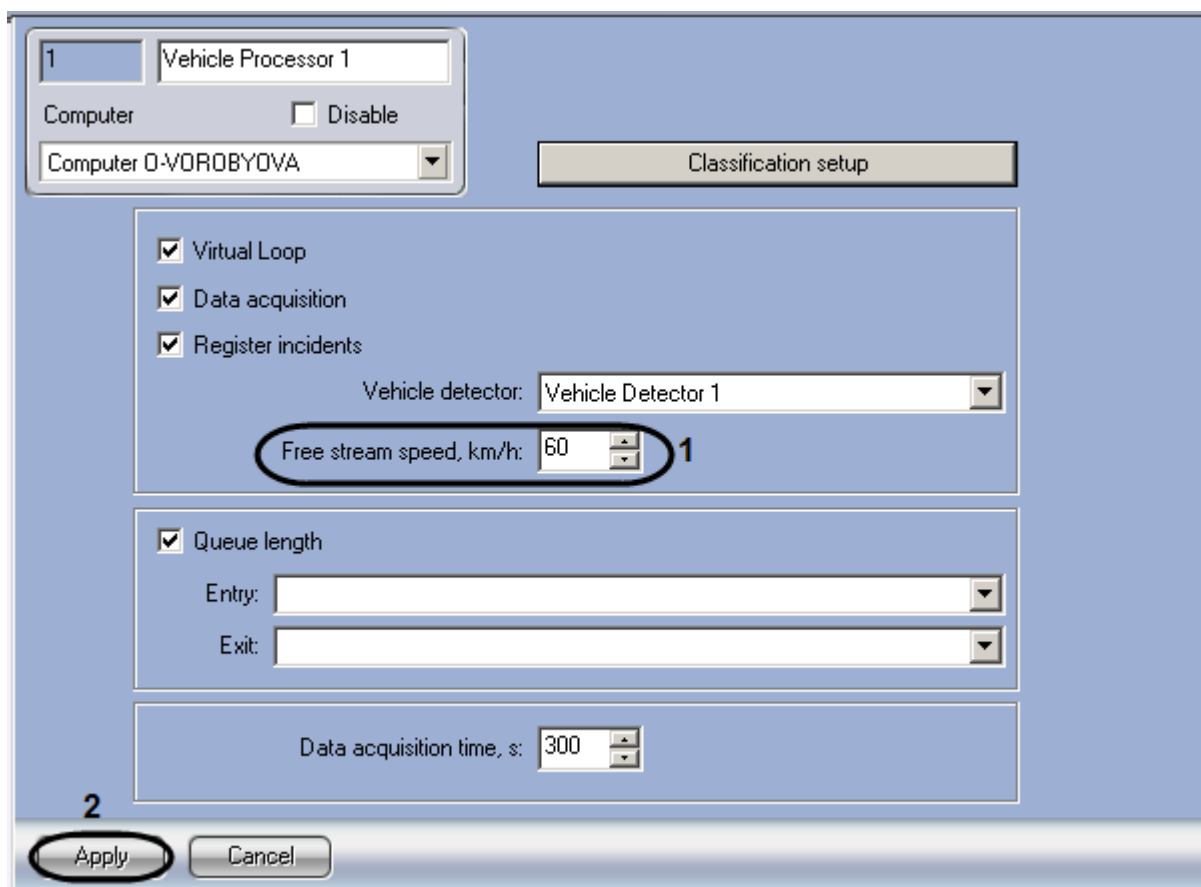

Fig. 7.7—11 Setting up the free stream speed
1. Go to the Vehicle processor settings panel (Fig. 7.7—11)
2. In the «Free stream speed» field enter the speed in km/h of a free stream speed in the detection zone (Fig. 7.7—11, 1)
3. Click «Apply» to save the changes (Fig. 7.7—11, 2)